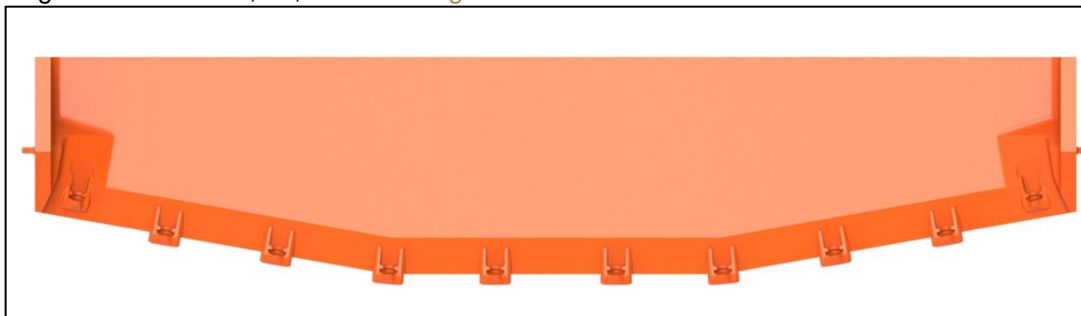

Figure 36 Painted Lip - Example
- 2.18.2. Prime and paint the lip as per the customer requirements. For Sandvik LHD lips, use Sandvik Orange color RGB 233, 80, 14. Refer **Figure 36**.